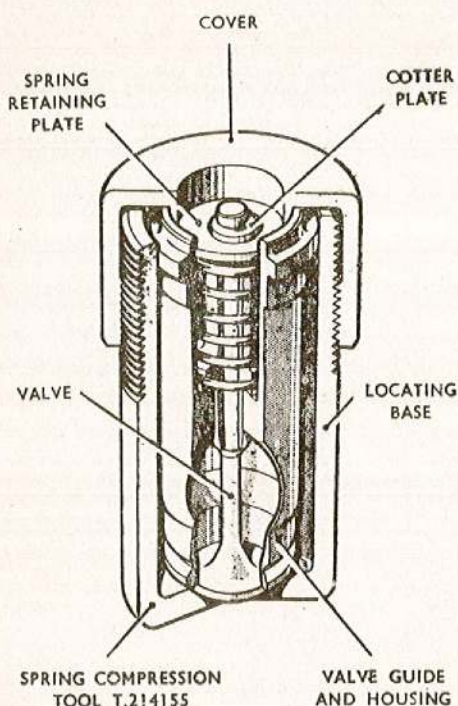

Fig. 6. Dismantling the non-return valve
33. Using the tool T.214155 as shown in fig. 6, place the valve assembly in the special locating base, then engage and screw down the cover to compress the spring sufficiently for the cotter plate to be withdrawn. Remove the cover and lift the assembly out of the locating base.